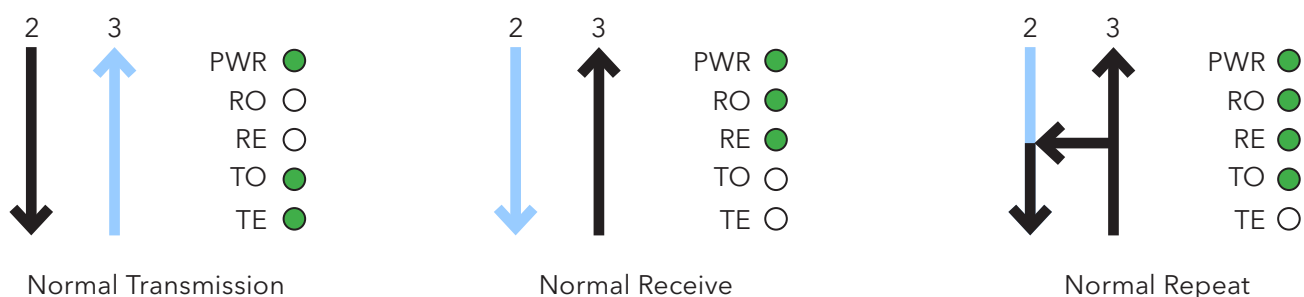

FIGURE 5. Diagnostic LED patterns and signal paths
Each Link/Repeater is equipped with four diagnostic/status indicating LEDs. They represent the electrical transmit (TE), optical transmit (TO), electrical receive (RE), and optical receive (RO) paths. These LEDs, when illuminated, indicate that the appropriate path is active. When the Link/Repeater is transmitting, both TE and TO LEDs will illuminate to indicate the transmit path is active. When the Link/Repeater is receiving light signals, both RO and RE LEDs will illuminate. If the unit is in the repeat mode and receiving light, the RO, RE and TO LEDs will illuminate, as the signal is being retransmitted out of the optical port, as well as being outputted to the electrical data D-connector. LEDs only illuminate when the path is active; powering on the unit does not illuminate the LEDs unless their path is active. When data is present on the paths, the LEDs may flicker; this is a normal condition. The diagnostic LEDs may also be used for troubleshooting, by observing that the illumination of the LEDs corresponds with activity in the unit. See Figure 5 for LED patterns and signal paths.
6. Verify operation using the diagnostic/status indicating LEDs. (See Figure 5).
7. Verify operation using the diagnostic/status indicating LEDs. (See Figure 5).